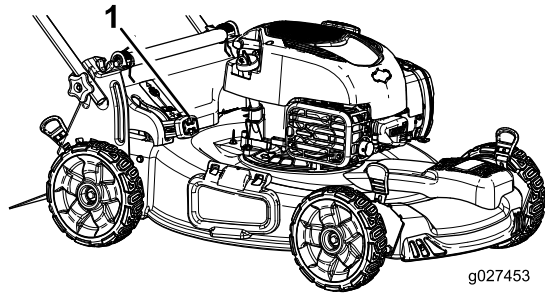

Figure 18
- **To bag the grass and leaf clippings**, press the button on the bag-on-demand lever and move the lever forward until the button on the lever pops up (Figure 18).